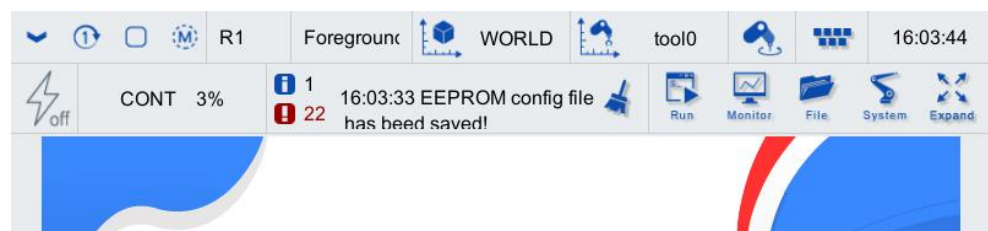

Figure 8-56 "Configuration file is exported successfully" prompt message
Step3. The message bar prompts "EEPROM configuration file has been saved!", as shown in Figure 8-56. Then the configuration file is exported to the selected path.